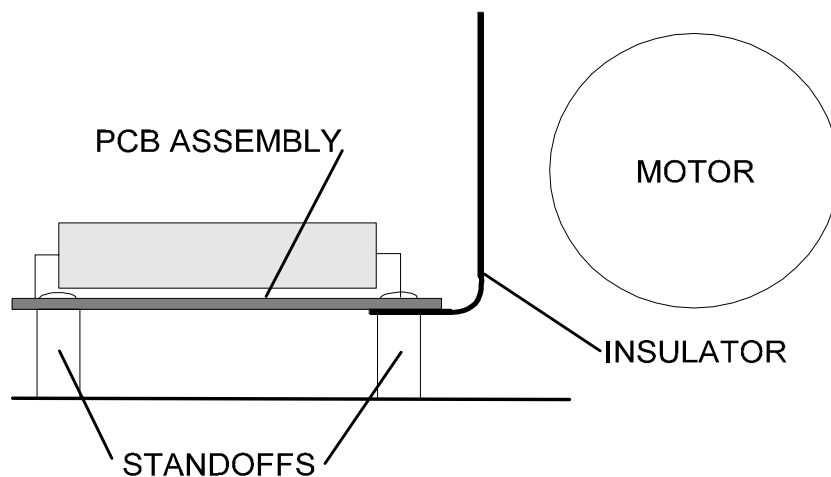

Figure 2
9. Connect the wiring harness from the triac and the bracket assembly (4) to the existing wiring harness as follows (See Figure 2):